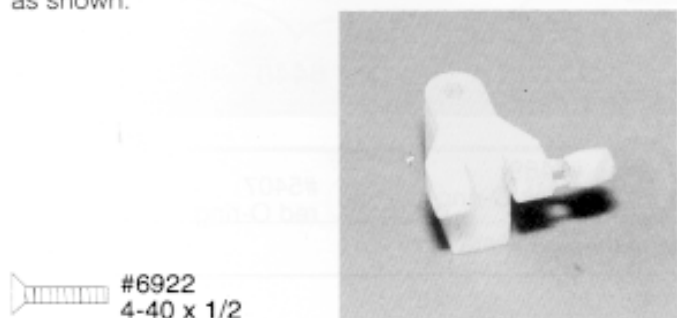
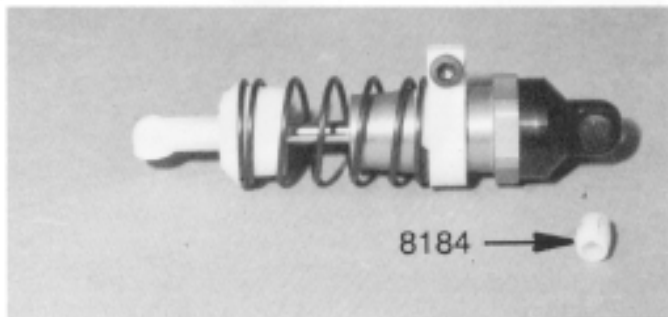

Fig. 38
Fig. 58
□ **Figs. 38 & 39** In bag 4 you will find the #8184 shock/antenna mount and two #6922 4-40 x 1/2" FHSScrews. The shock mount has a small football-shaped, molded piece on one end; trim this off and set it aside, for we will use it a little later. Using the two 4-40 x 1/2" FHSScrews, install the shock/antenna mount on the chassis as shown.
□ **Figs. 58 & 59** Back in fig. 38 we removed the small shock bushing from the #8184 antenna/shock mount. Now insert that bushing inside the hole on the aluminum shock cap.